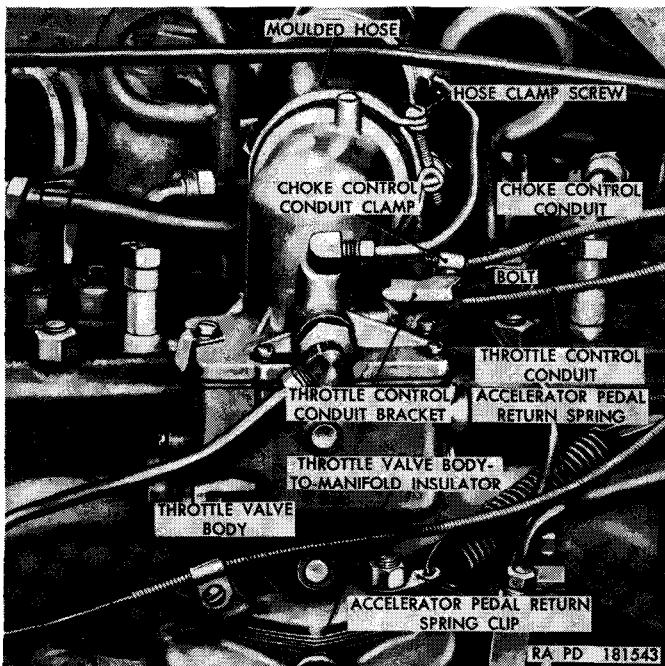

Figure 45. Carburetor removal or installation—left side.
- (1) Loosen the setscrew (K) securing the throttle control wire (L) to the stop (J) and remove the stop from the throttle control wire.
- (2) Loosen the setscrew (Q) securing the choke control wire (N) to the swivel (P).
- (3) Remove the cotter pin and flat washer from the accelerator control rod (M) and slide the rod out of the hole in the throttle lever (H).
- (4) Disconnect the vent line (A) from the elbow (B) on the carburetor and unscrew the elbow from the carburetor.
- (5) Disconnect the fuel line (D) from the elbow (C) on the carburetor and unscrew the elbow from the carburetor.
- (6) Remove the nut securing the support strap (E) and the carburetor assembly to the intake manifold and remove the strap from the manifold stud.
- (7) Loosen the hose clamp screw (fig. 45) securing the moulded hose to the carburetor.
- (8) Remove the plain nut and bolt securing the choke control conduit (fig. 45) and clamp to the throttle control conduit bracket and slide the choke control wire (N) out of the swivel (P).
- (9) Spread the opening in the throttle control conduit bracket (fig. 45) sufficiently to pull the throttle control conduit out of the bracket and the throttle control wire (L) out of the swivel of the throttle lever.
- (10) Unhook the accelerator pedal return spring from the accelerator pedal return spring clip (fig. 45).
- (11) Remove the nut securing the accelerator pedal return spring clip and the carburetor to the manifold stud and remove the clip from the stud. Lift the carburetor off the studs and remove from the vehicle. Remove the old throttle valve body-to-insulator gasket and the throttle valve body-to-manifold insulator (fig. 45) from the manifold studs.
- (1) Place a new throttle valve body-to-manifold insulator (fig. 45) and a new throttle valve body-to-insulator gasket over the studs in the manifold. Place the carburetor over the studs and into the moulded hose.
- (2) Place the support strap (E) over the front manifold stud and screw nut onto stud fingertight. Place the accelerator pedal return spring clip (fig. 45) over the intake manifold stud and screw the nut on the stud fingertight. Tighten the front and rear nuts on the manifold studs evenly. Hook the accelerator pedal return spring into the clip.
- (3) Slide the throttle control wire (L) through the throttle control conduit bracket (fig. 45) and through the swivel on the throttle lever (H). Make sure that the throttle control (BB, fig. 7) is pushed all the way into the instrument panel. Place the stop (J) over the end of the throttle control wire (L) and push it up to the swivel on the throttle lever (H). Tighten the setscrew (K).
- (4) Slide the choke control wire (N) through the swivel (P). Make sure that the choke control (CC, fig. 7) is pushed all the way into the instrument panel. Push the choke lever (R) toward the front of the vehicle as far as it will go and tighten the setscrew (Q). Position the choke control conduit clamp (fig. 45) on the throttle control conduit bracket. Put the No. 10 x $\frac{3}{4}$ bolt through the throttle control conduit bracket and the choke control conduit clamp. Screw No. 10 plain nut on the bolt and tighten with a screwdriver.
- (5) Tighten the hose clamp screw (fig. 45) securing the moulded hose to the carburetor.
- (6) Push the end of the accelerator control rod (M) through the hole in the throttle lever (H). Place a flat washer over the end of the rod and install a cotter pin.
- (7) Screw the elbow (C) into the carburetor and connect the fuel line (D) to the elbow. Screw the elbow (B) into the carburetor and vent line (A) into the elbow.
- (8) Start the engine and warm up to operating temperature. Check the controls for proper operation. Check for smooth, even operation of the engine or air leaks around the throttle valve flange insulator.
(1) Removal.
- (a) Disconnect the fuel line (D), between the fuel and vacuum pump and the carburetor, by unscrewing the nut at the carburetor end of the line. Disconnect the vent line (A), between the air intake pipe and the carburetor, by unscrewing the nut at the carburetor end of the line.
- (b) Unhook the accelerator pedal return spring from the accelerator pedal return spring clip. Remove the nut and accelerator pedal return spring clip (fig. 45) from the manifold stud at the rear of the carburetor. Remove the nut and support strap (E) from the manifold stud at the front of the carburetor.
- (c) Loosen the hose clamp screw (fig. 45) securing the moulded hose to the carburetor and slide the hose from the carburetor. Raise the carburetor until it clears the studs in the intake manifold. Remove and discard the throttle valve body-to-manifold insulator and throttle valve body-to-insulator gasket and clean the contact surfaces on the intake manifold and the throttle valve flange.
(2) Installation.
- (b) Place the support strap (E) over the front stud and screw a nut on the stud fingertight. Place the accelerator pedal return spring clip over the rear stud and screw a nut on the stud fingertight. Tighten the front and rear stud nuts evenly securing the clip, support strap, and carburetor to the intake manifold. Hook the accelerator pedal return spring into the clip.
- (c) Connect the vent line (A) to the carburetor by screwing the nut at the carburetor end of the line into the fitting on the carburetor. Connect the fuel line (D)